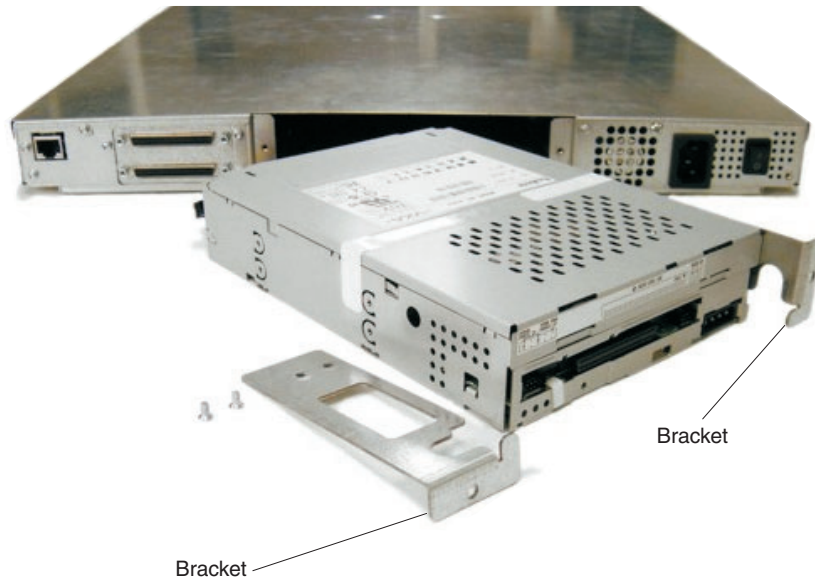

Figure 23. Removing the tape drive mounting brackets
7. Using a #1 Phillips screwdriver, remove the two screws from each of the brackets that are attached to the tape drive (see Figure 23 on page 50). Save the brackets and screws. You will attach the brackets to the new tape drive.